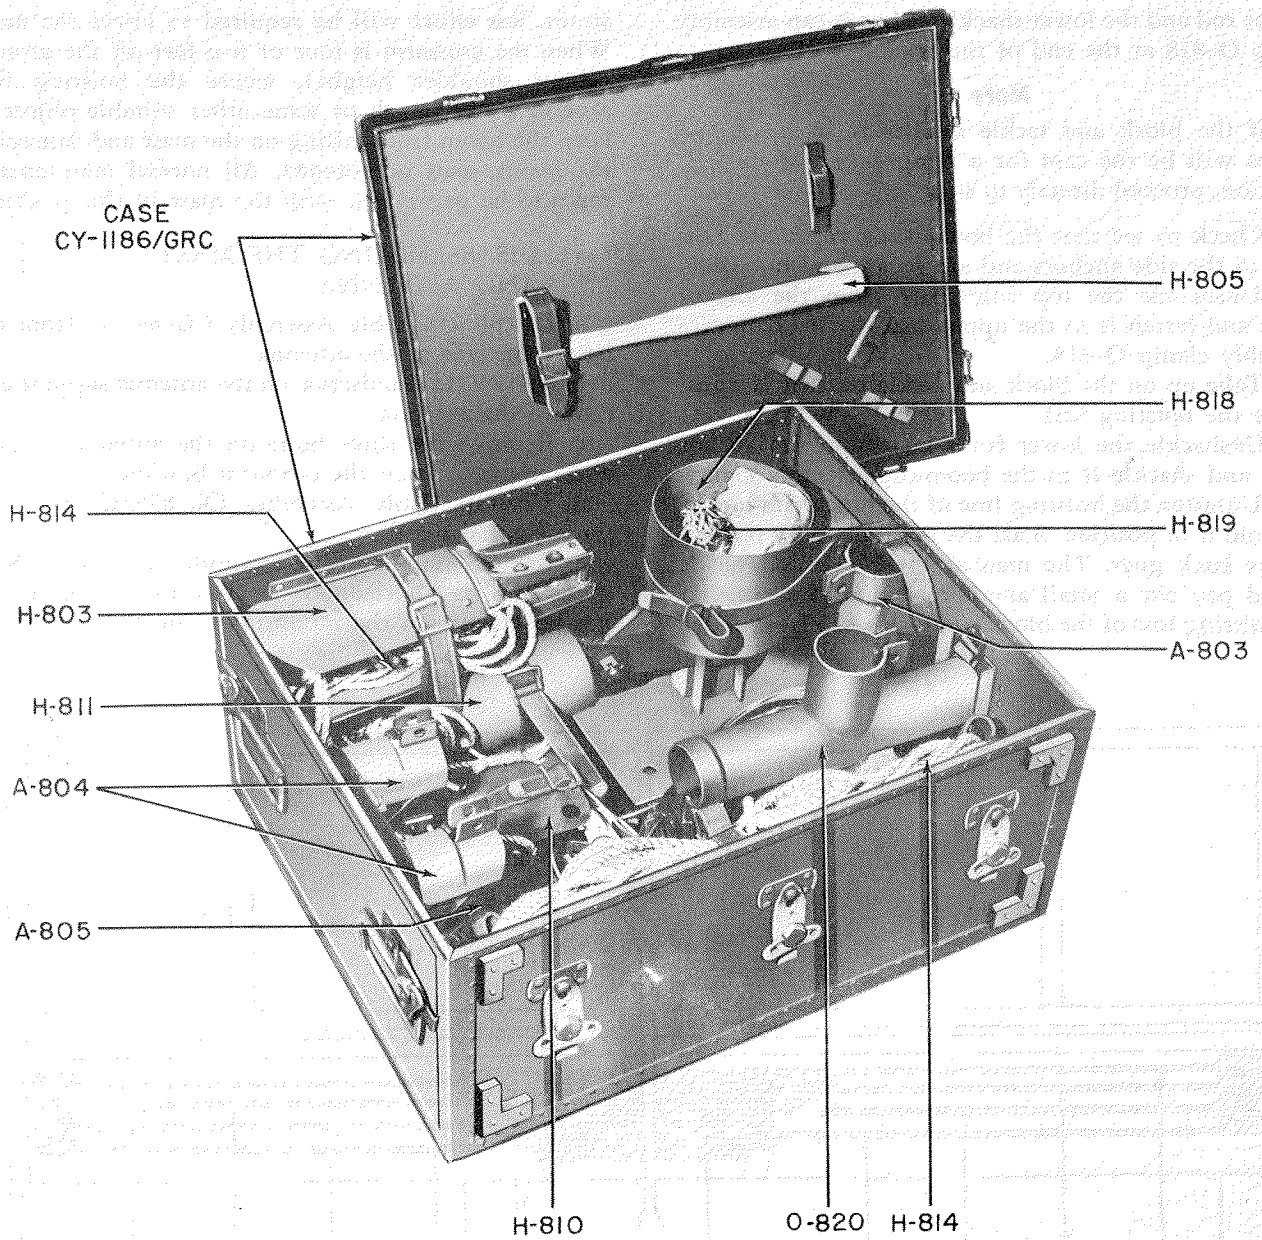
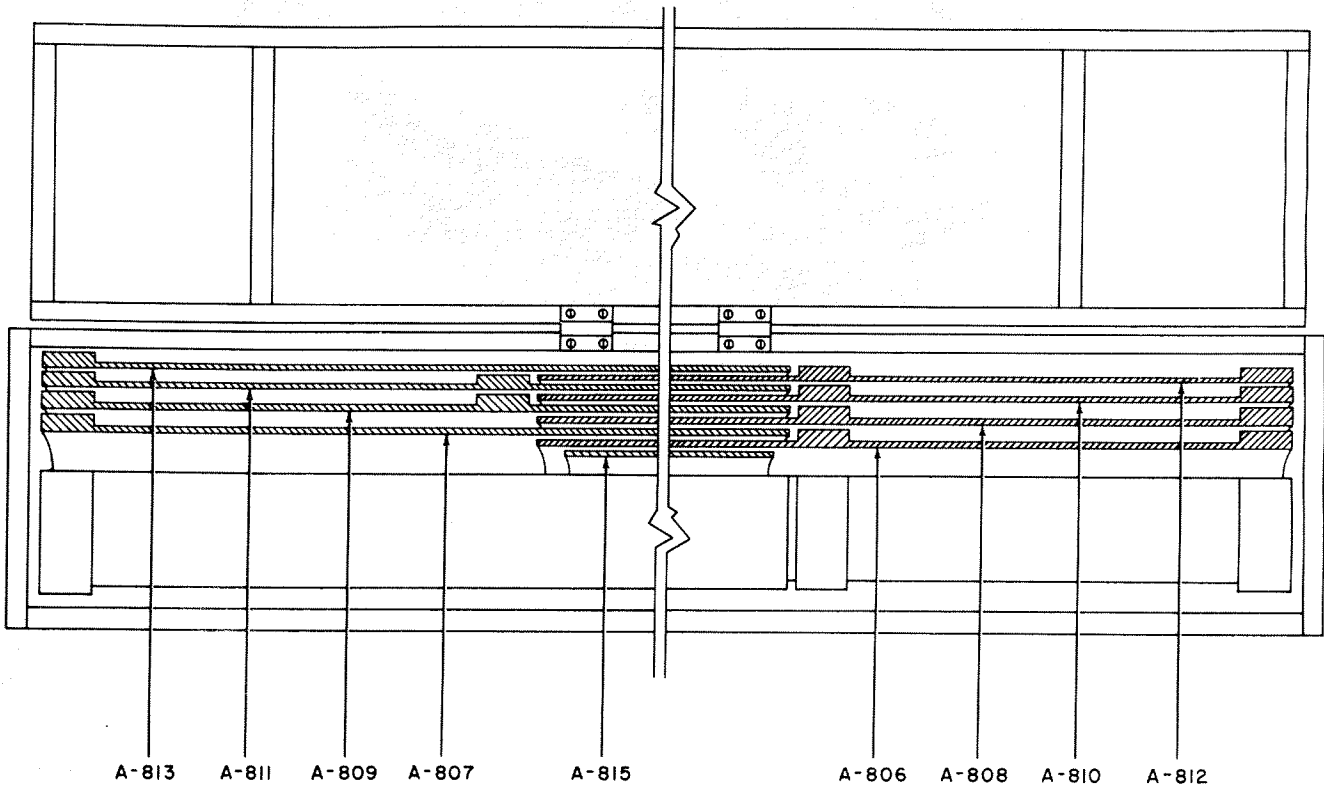

Figure 3-13. Mast Erection Kit Packed for Shipment
Figure 3-14. Mast Nesting Diagram
- s. Replace the antenna and mast parts in the cases in which they were originally shipped. Refer to figures 3-9 for Antenna Case CY-728/GRC, figure 3-13 for stowage in Mast Erection Kit Case CY-1186/GRC and figure 3-14 for nesting mast sections and stowage in Mast Case CY-1185/GRC. Be sure that the covers of the cases are securely locked and fastened tightly.